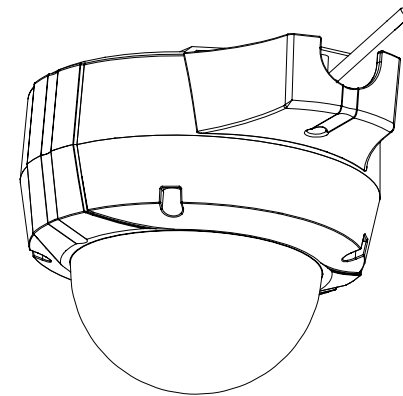

Figure 2.6
6. Place the dome body onto the base of the camera. (Figure 2.6)